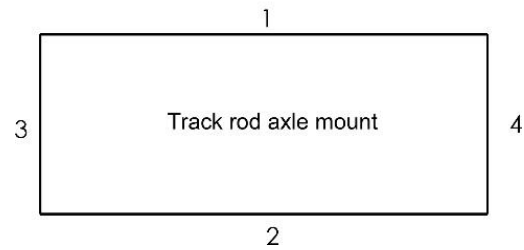

Figure 28. Tack Welding Axle Mount
8. Tack weld all four sides of the axle mount to the axle housing as shown in Figure 28.